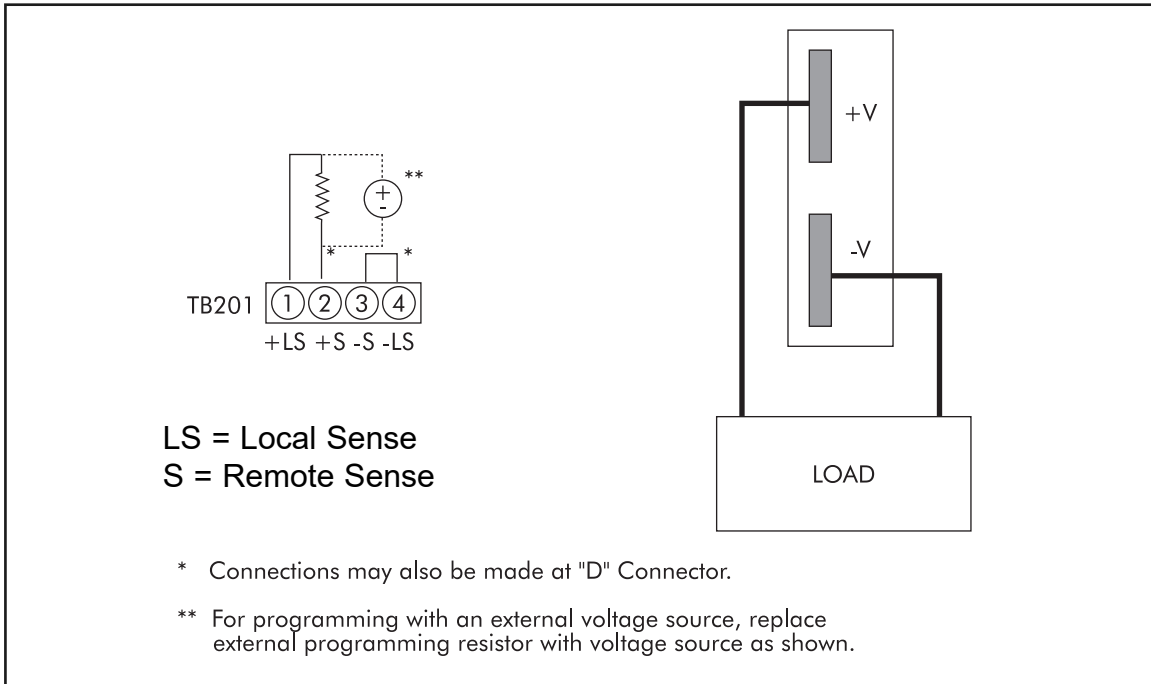

Figure 4 - Remote Voltage Control with an External Programming Resistor or Voltage Source (Local Sensing)
Remote Voltage Programming external resistor.	1000 ohms per volt for resistor connected between pins 1 and 2 on TB201 (see Figs. 4 and 5).
Remote Voltage Programming external voltage source.	Volt per volt for voltage source connected between pins 1 and 2 on TB201 (see Figs. 4 and 5).
2. With the power supply unloaded, set V_{out} to the OVP threshold desired. In cases where the desired OVP threshold exceeds the unit's adjustment range maximum of 15.75V, a programming resistor (see figures 4 & 5) will temporarily be needed to provide the higher output voltage to perform the adjustment. Once adjusted, remove the programming resistor. Alternatively, you may use an external voltage source to set the OVP threshold as shown in figures 4 & 5.